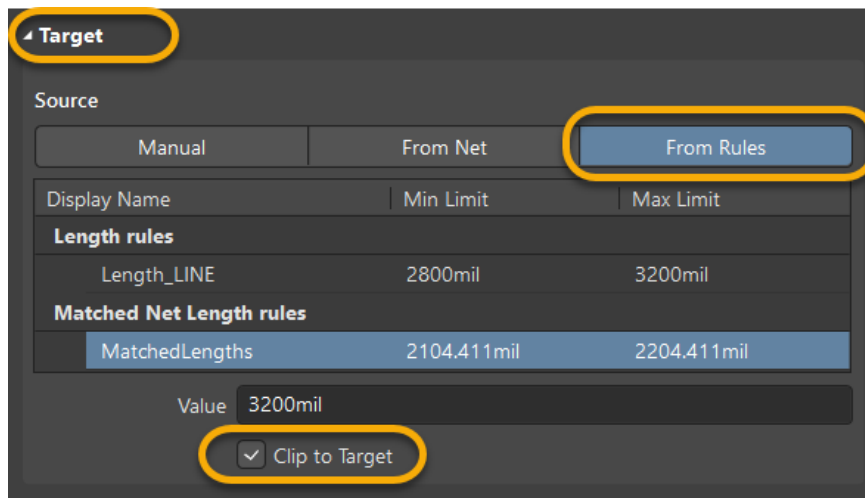

Figure 3. Source length for signal length tuning
- a) For the *Source*, under the *Target* section, select **From Rules**, as shown in Figure 3.